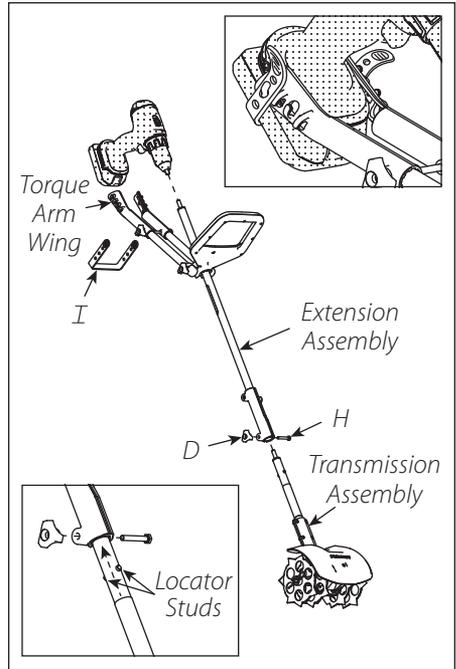

FIGURE 5
SEE FIGURE 5
4. Secure the wing ends of the torque arm with the rubber strap (I) hooked onto the best available hook of one torque arm wing, stretching the strap around the bottom of the battery and hooking it onto the best available hook on the other side. Multiple holes are available on the rubber strap to ensure a secure stretch fit around most any available battery size. **SEE FIGURE 5**